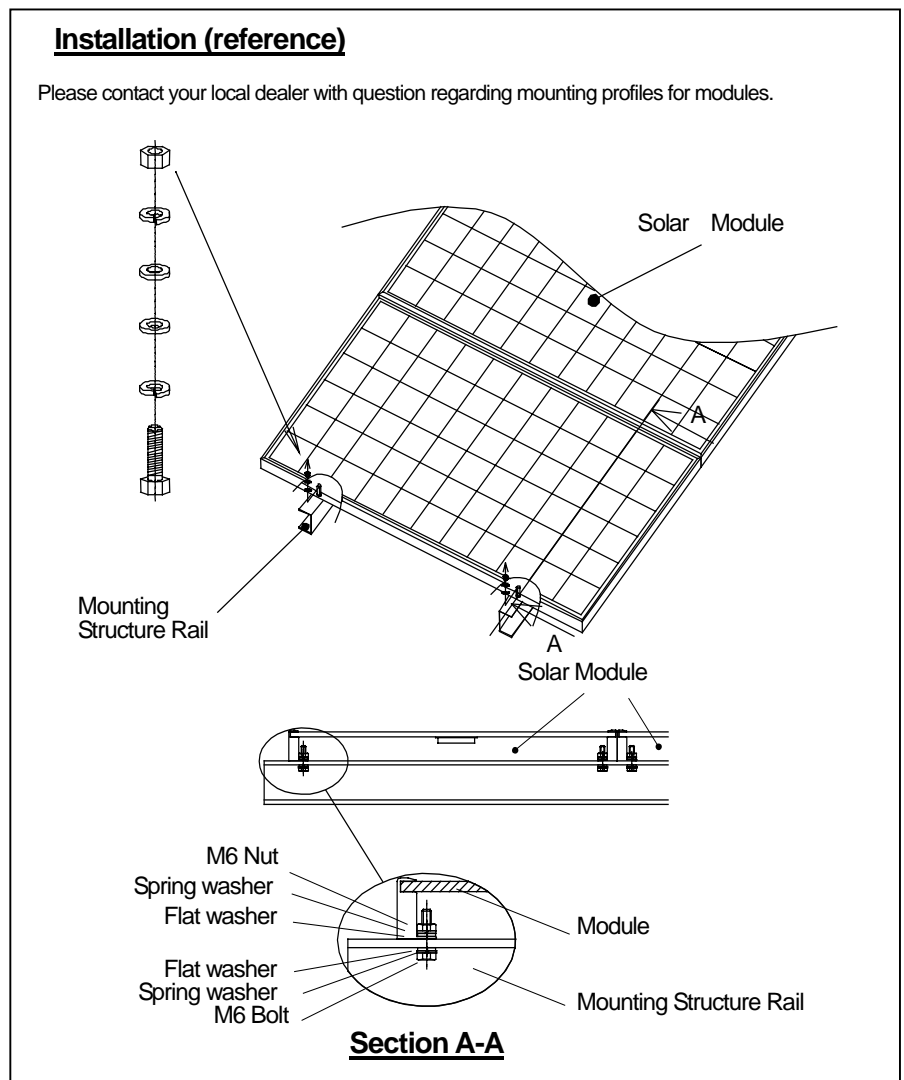

Figure1: Installation
- We recommend installation method shown in Fig1. In some areas, local electrical and building codes may govern the installation and use of PV modules.
The modules should be mounted at the 4 or more points as shown in Fig1, Fig2. Then, a maximum loading of 2170N/m^2 (45PSF, in static state) on the module surface is possible.